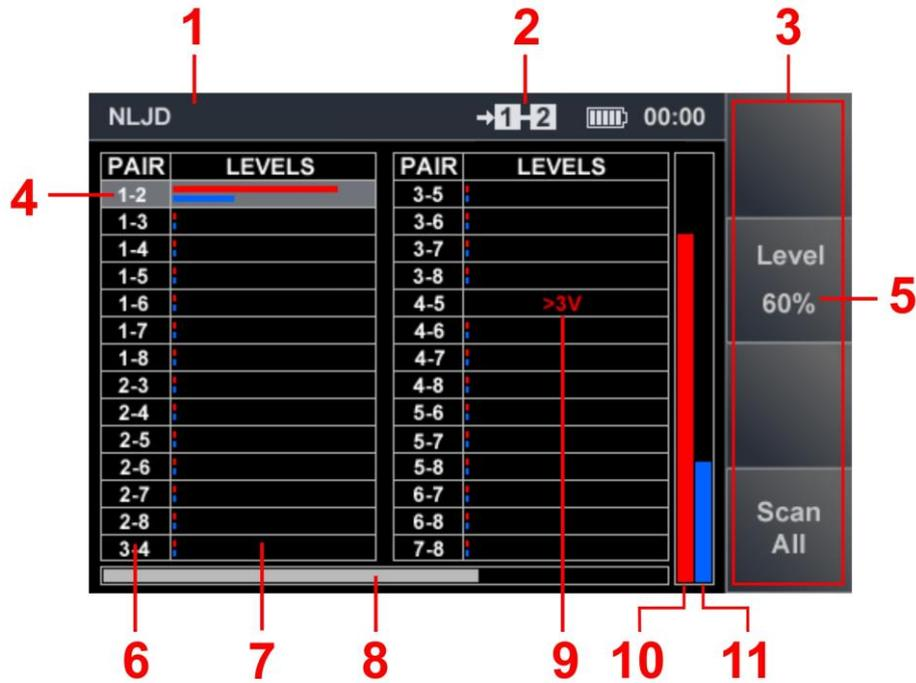

Fig.50
On the pair indicator (Fig. 50, item 2) the inscription "OVER" will appear. Such a cable must be de-energized.
In Fig.50:
- Press "F2". The indicator's field (Fig.50, item 5) will become lighter;
- By means of the  or  buttons to set value of gain in % (20, 40, 60, 80, 100) which is displayed on the indicator (Fig.50, item 5);
- Press "F2" (finish setting). The indicator's field (Fig.50, item 5) will become darker.